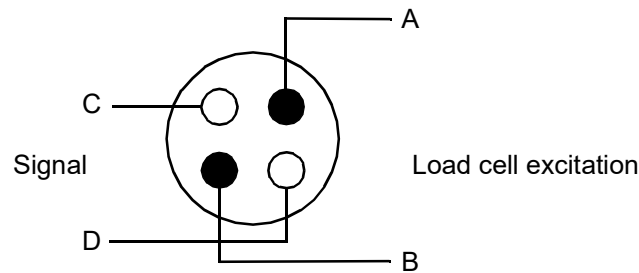

Figure 2-2. Core Arrangement in Load Cell Cable
- The cable from the load cell **must be a robust four core cable**, see Figure 2-2. Diagonal pairs must be used for the signal circuits and excitation circuits.